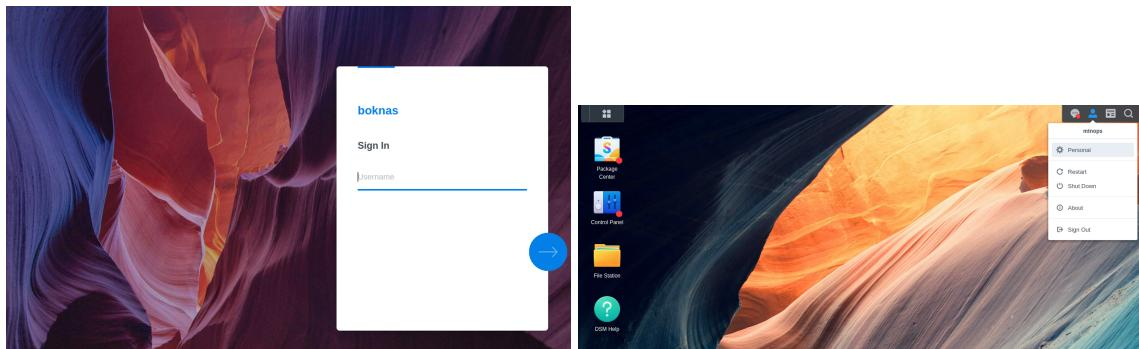

Figure 6: Shutting Down the NAS (boknas ).
3. Navigate to <http://10.30.1.9:5000> ... the screen should appear looking like the LHS of Figure 6.
5. The screen should change to looking like the RHS of Figure 6.